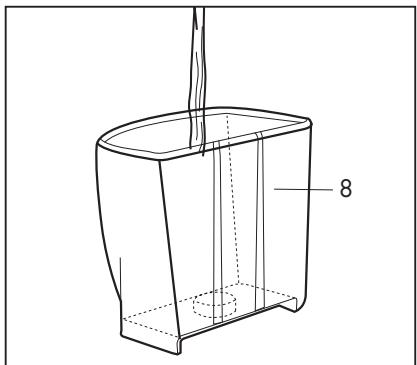

Fig. 2
- Fill the tank with up to 2 litres of fresh cold water. (**Fig.2**)